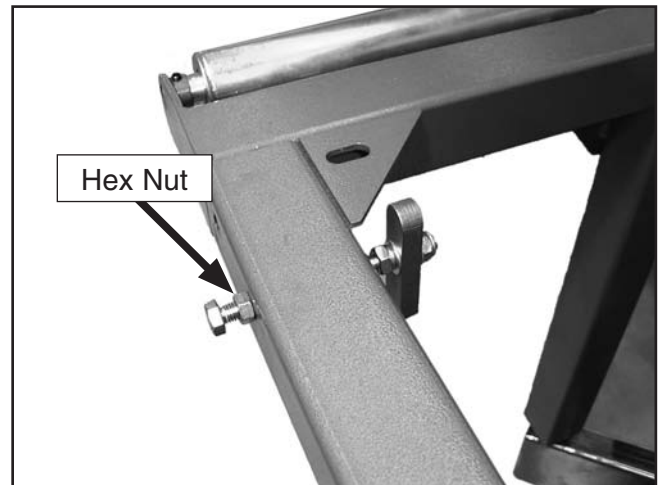

Figure 86. Crosscut fence adjustment cam.
5. Loosen the hex nut shown in **Figure 86** and rotate the hex bolt to square the crosscut fence.